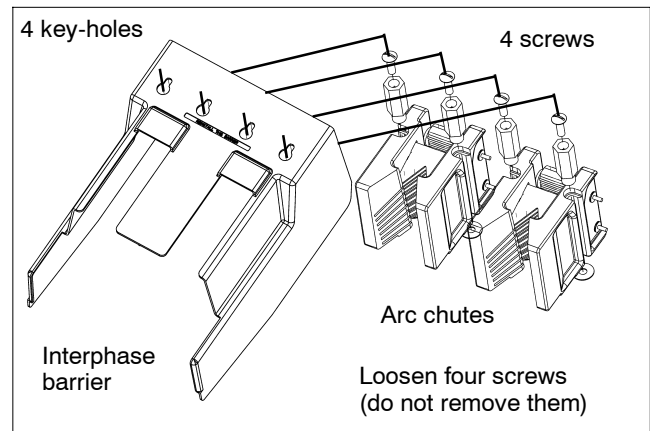

Figure 10-4 Interphase Barrier Secured by Four Screws
3. **Remove the interphase barriers** (one per pole). Use a blade screwdriver to loosen four round-head screws holding each barrier to the arc chutes. Slide the barrier up or down (away from the operator mechanism) until the four keyholes in barrier clear the four round-head screws, then remove it. See Figure 10-4.
3. **Remove the interphase barriers** (one per pole). Use a blade screwdriver to loosen four round-head screws holding each barrier to the arc chutes. Slide the barrier up or down (away from the operator mechanism) until the four keyholes in barrier clear the four round-head screws, then remove it. See Figure 10-4 on page 159.